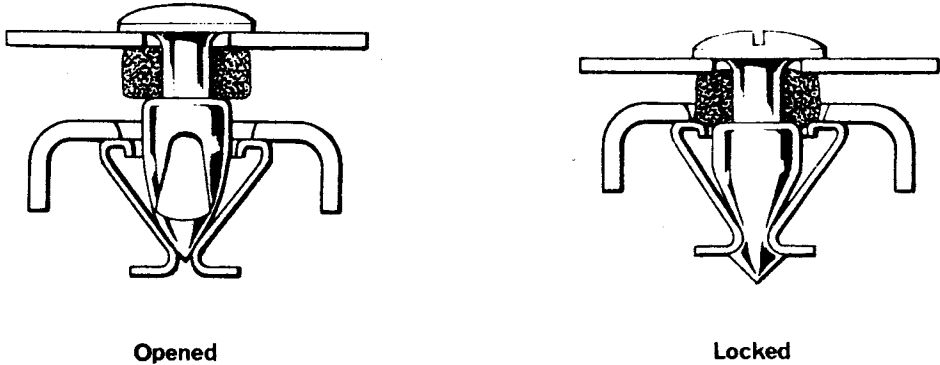

Fig. 13. Oddie fastener
10. **Oddie fastener.** The Oddie fastener is often used to secure sheet metal inspection panels to radio equipment. As shown in Fig. 13, a central stud is held in position in the panel by a rubber washer or a coiled spring. A two legged spring clip is fastened to the fixed component, usually by rivets. The stud is bullet shaped and has two diametrically opposite recesses at the jointed end. The fastener is locked by positioning the recesses in line with the legs of the spring and pressing the stud home. There should be a definite click as the fastener engages. The fastener is unlocked by giving the stud a quarter of a turn in either direction, thus turning the recesses out of engagement with the spring legs.